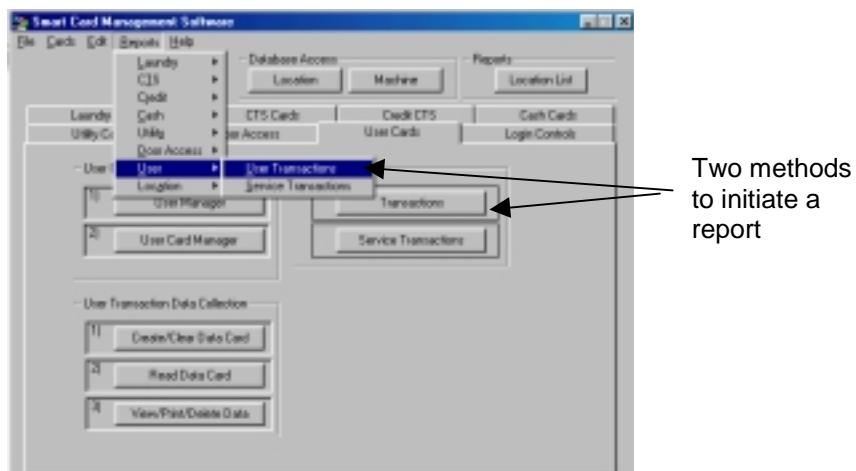

Figure 6.16 Accessing User Reports
1. In the User Cards Manager click the desired report or select it from the User submenu of the Reports drop-down menu in the main SMS window (Figure 6.16).